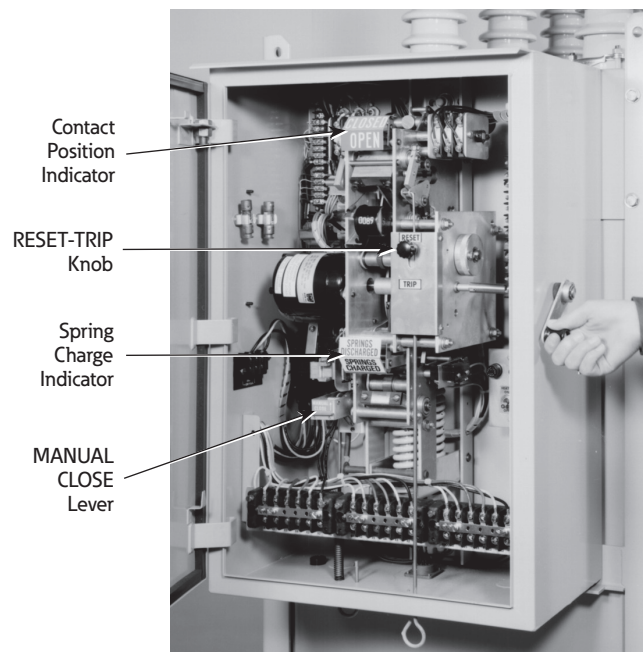

Figure 15. Manual closing.
- iv. Insert the manual closing crank (stored on the inside of the operator cabinet door) through the hole in the right-hand side of the operator cabinet (sealed with a bolt-nut-seal) and onto the drive shaft (see Figure 15).